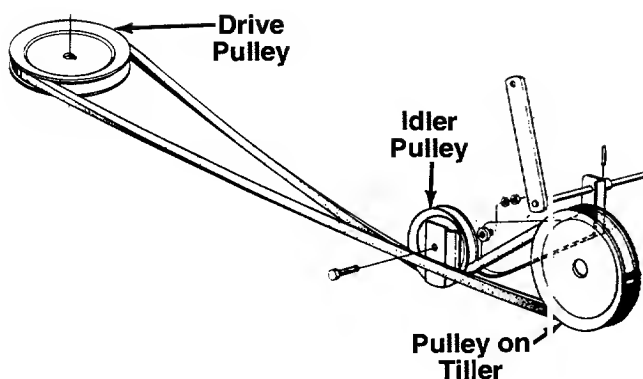

FIGURE 13.
25. Assemble the belt as follows (refer to figure 13).
- C. Twist the belt 90° to the right as shown in figure 13. Slip the belt around the drive pulley on the tractor.